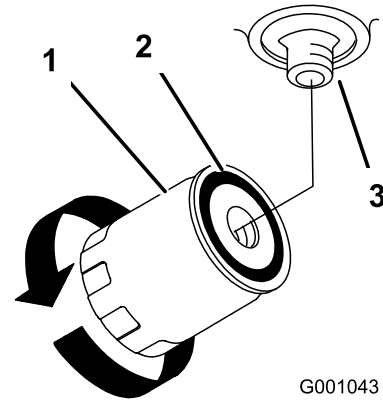

Figure 75
3. Apply a thin coat hydro fluid to the rubber gasket on the replacement filter (Figure 75).
7. Fill the hydraulic tank with hydraulic fluid until the fluid overflows the filter and then turn the oil filter clockwise until the rubber gasket contacts the filter adapter, then tighten the filter an additional 1/2 turn (Figure 75).